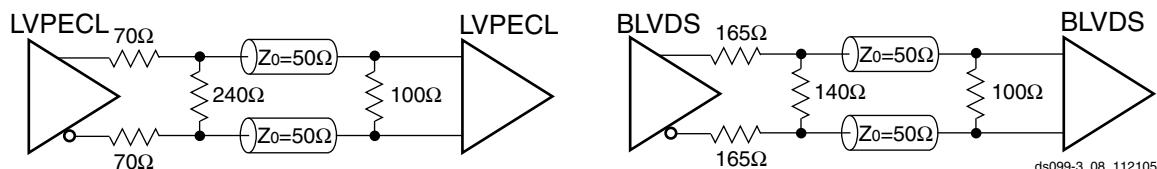

Figure 34: External Termination Required for LVPECL and BLVDS Output and Input
5. Each LVPECL_25 or BLVDS_25 output-pair requires three external resistors for proper output operation as shown in Figure 34. Each LVPECL_25 or BLVDS_25 input-pair uses a $100W$ termination resistor at the receiver.